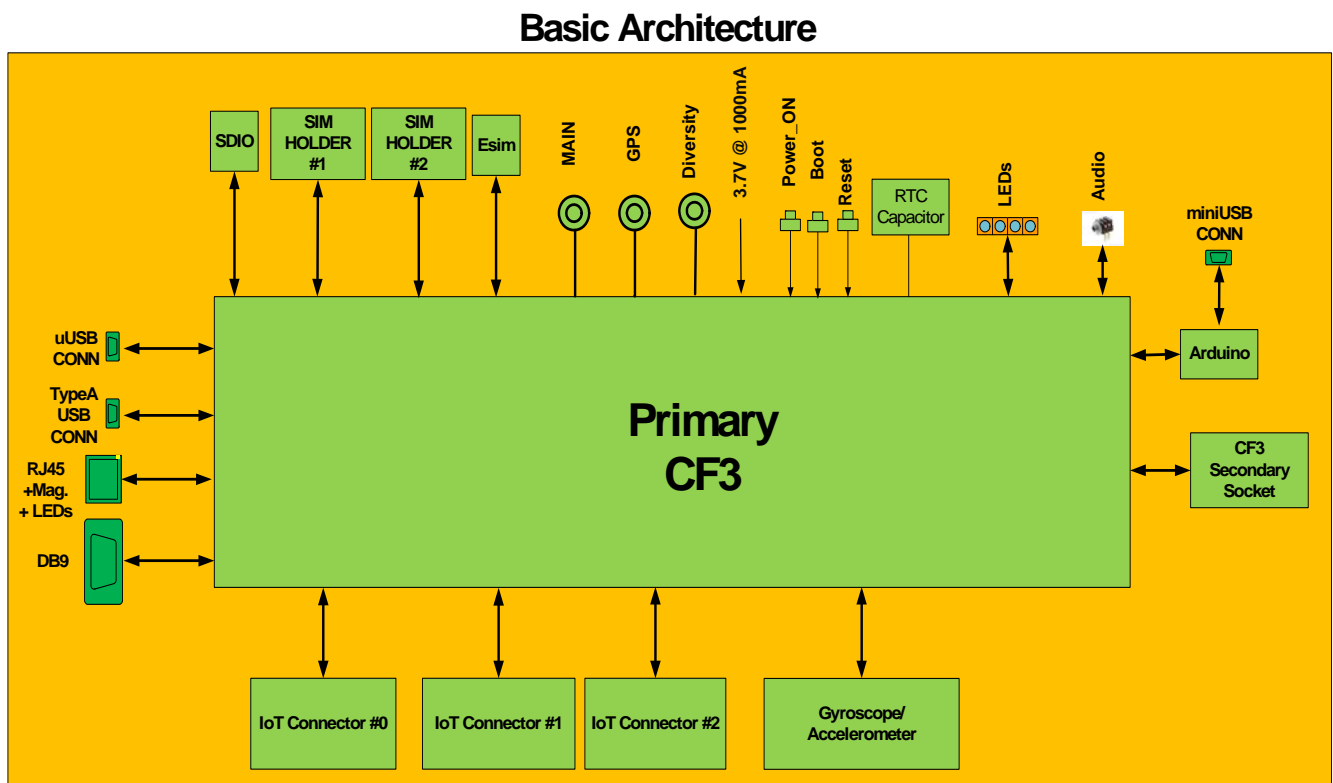
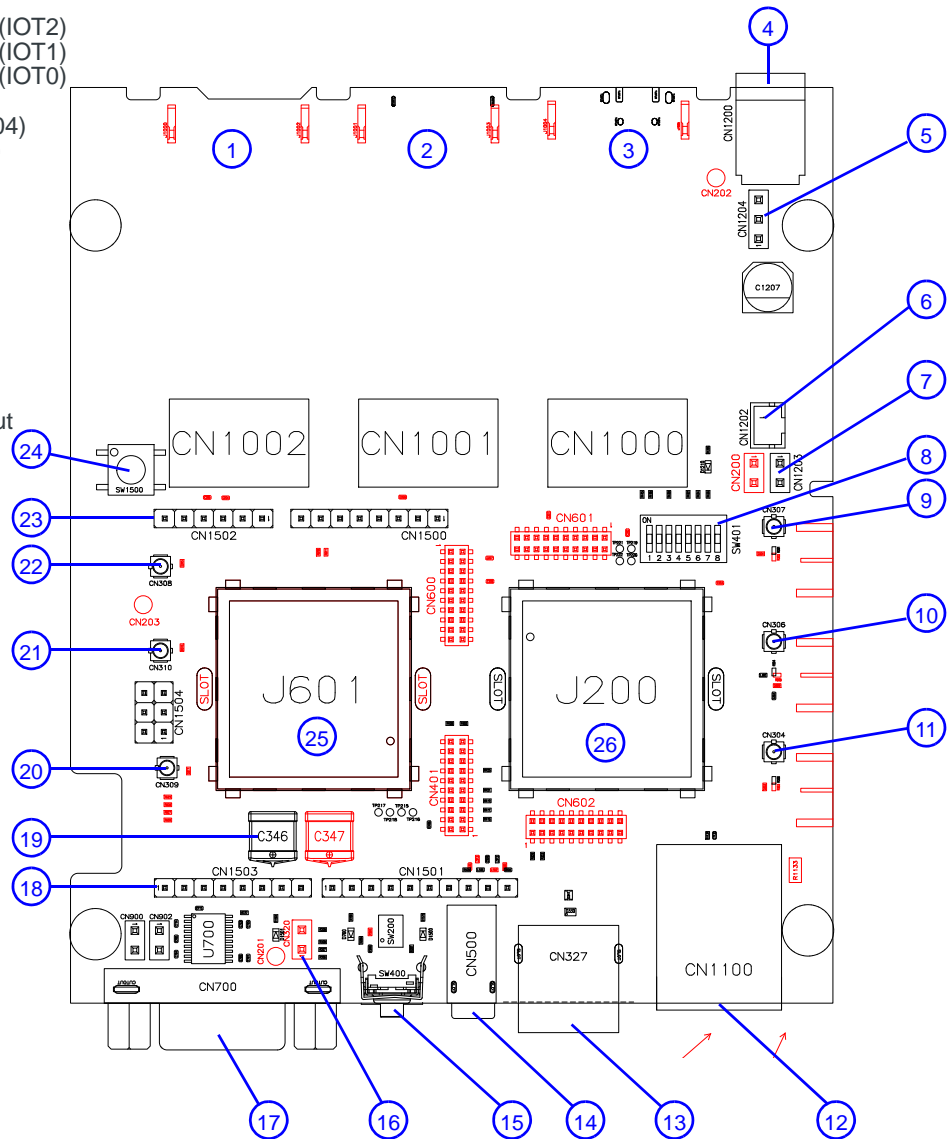
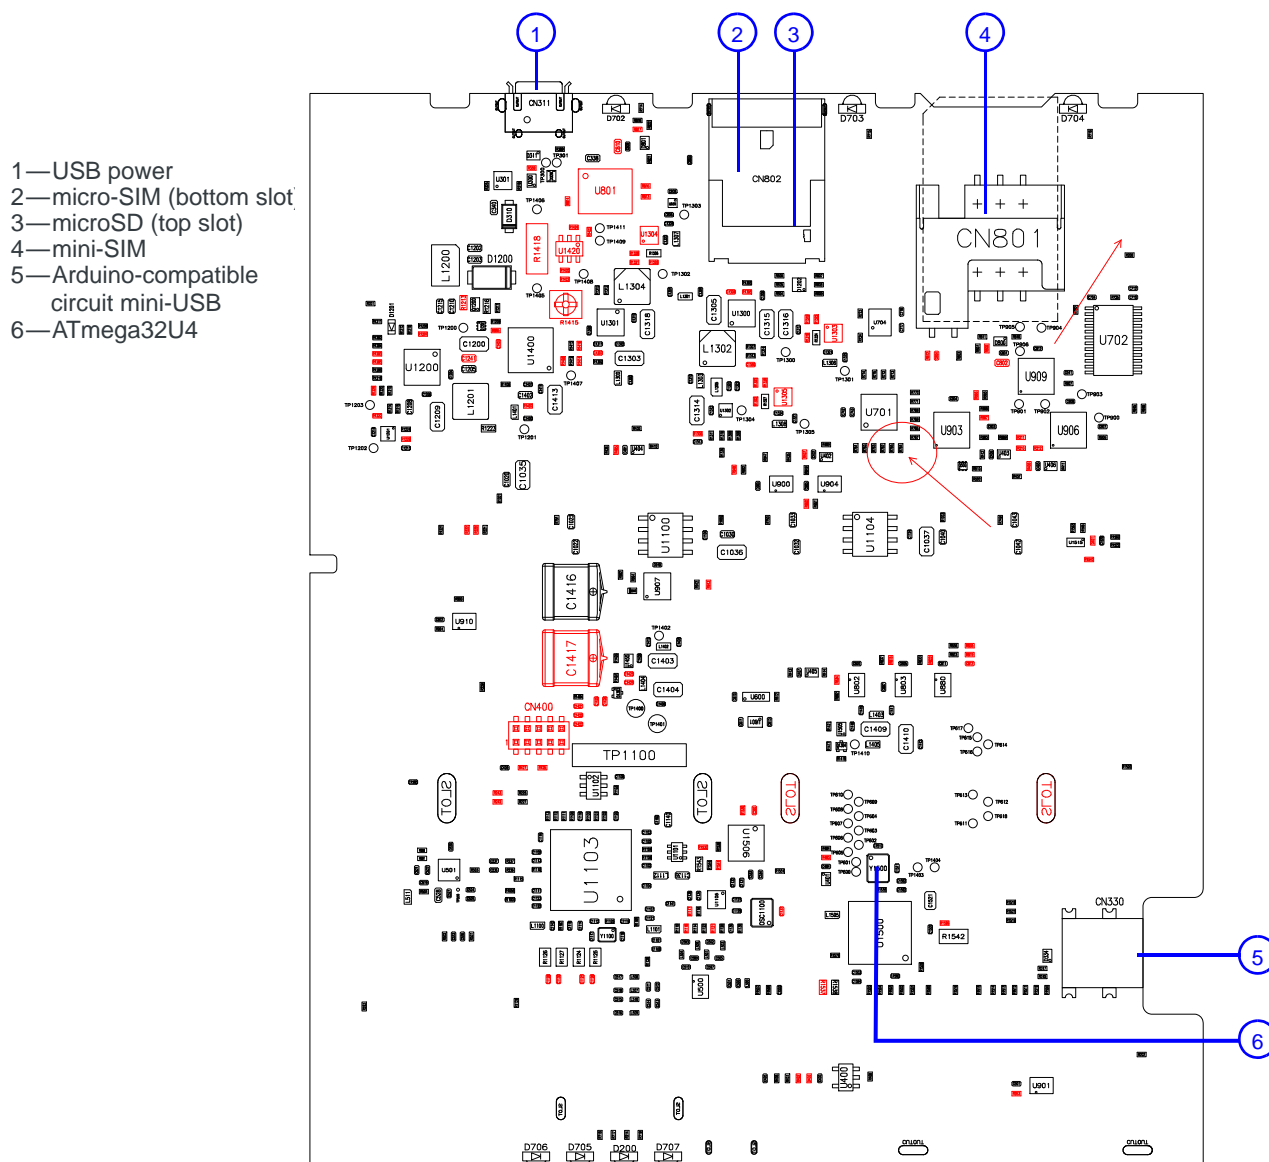

Figure 2-1: mangOH Green Hardware Components Overview
Figure 2-2: mangOH Green—Top Side Switches/Connectors
Figure 2-3: mangOH Green—Bottom Side Switches/Connectors
Figure 2-1 provides an overview of the mangOH Green’s hardware components relative to the primary CF3 module, and Figure 2-2 and Figure 2-3 show their locations.
- a. Board designators (e.g. CN311, SW401, etc.) are for reference against the published mangOH Green schematic. For component locations on the board, see Figure 2-2 and Figure 2-3.